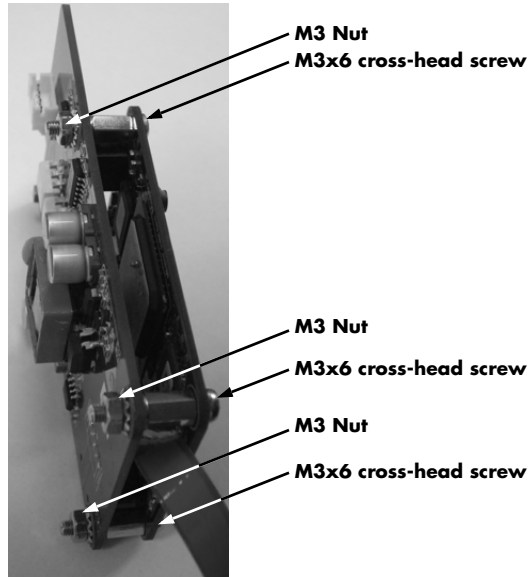

FIGURE 4-30 Remove three (3) M3 nuts, and three (3) M3x6 cross-head screws.
1. Remove the isolation power board by removing the three (3) M3 nuts (as shown in Figure 4-30).
2. Remove the three (3) M3x6 cross-head screws.